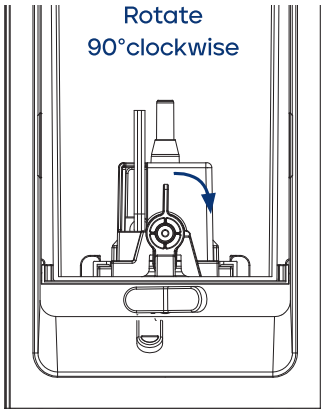

Figure 3
- Rotate the water pump release knob 90° clockwise and lift the pump out of the mounting (Figures 3 & 4).